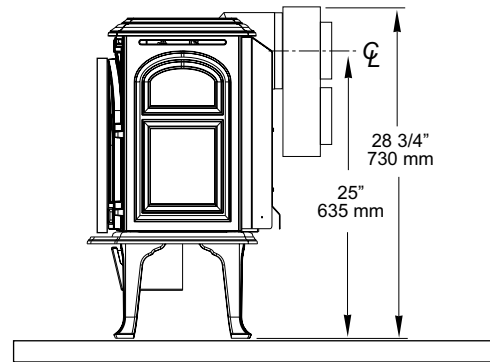

Figure 14. Simpson Dura-Vent #923GCL Co-linear Adaptor. Subtract 2 1/4" for Short Legs.
This appliance may be vented through a masonry or Class A prefabricated chimney using a Co-linear Flexible lining system approved for use with a solid-fuel burning fireplace. When installed in the manner described below, this system can improve the performance of the appliance in cold climate situations, as well as simplify the vent installation. See figs. 14 - 15.
6. **STUB INTAKE** (fig. 14): If the intake flex duct does not extend the full length of the chimney to fully connect both the unit and termination cap, a sheet metal block-off plate must be installed above the appliance before the end of the intake duct. The plate must completely seal the chimney flue from the living area.